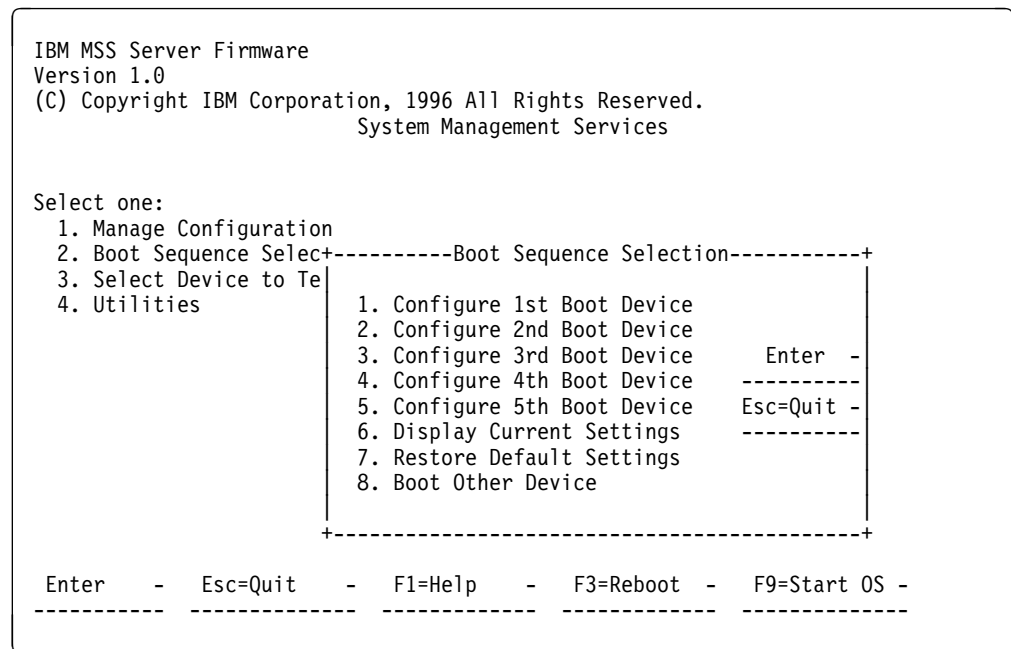

Figure 4-3. Boot Sequence Selection Panel
- 2** The Boot Sequence Selection panel is displayed as shown in Figure 4-3.